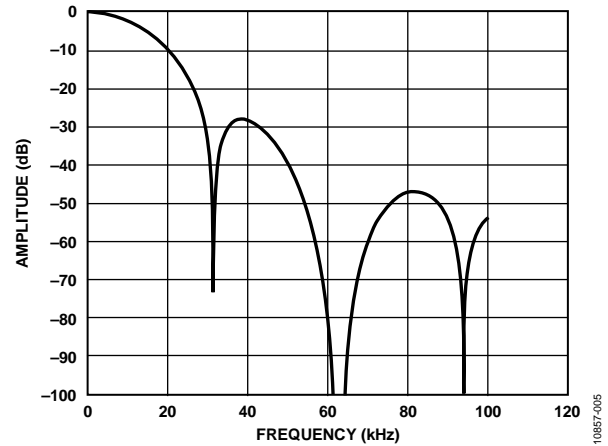
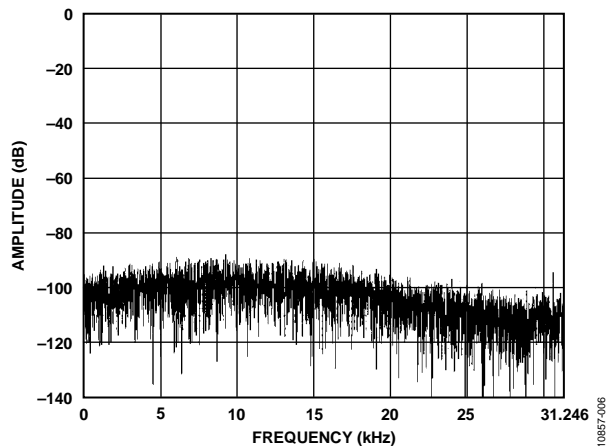

Figure 5. Sinc3 Filter Response for Decimation Rate = 256, Output Data Rate = 62.5 kHz
Figure 6. 16K-Point FFT Showing Noise Floor for Decimation Rate = 256, Output Data Rate = 62.5 kHz
The AD7401A is specified for a decimation rate (DR) of 256. However, it is possible to use this device at higher decimation rates. For a DR = 256, the response of a sinc3 filter is shown in Figure 5 where the output data rate is 62.5 kHz, and the FFT noise floor is shown in Figure 6.